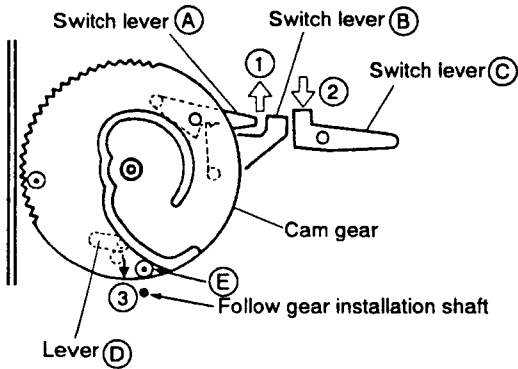

Fig. 11
- ② Move switch levers **A** and **B** (Fig. 11) in the direction of arrow ① (SW is ON), switch lever **C** in the direction of arrow ② and lever **D** in the direction of arrow ③.
- ② Install the cam gear when the cam gear comes to the position as shown in Fig. 11.